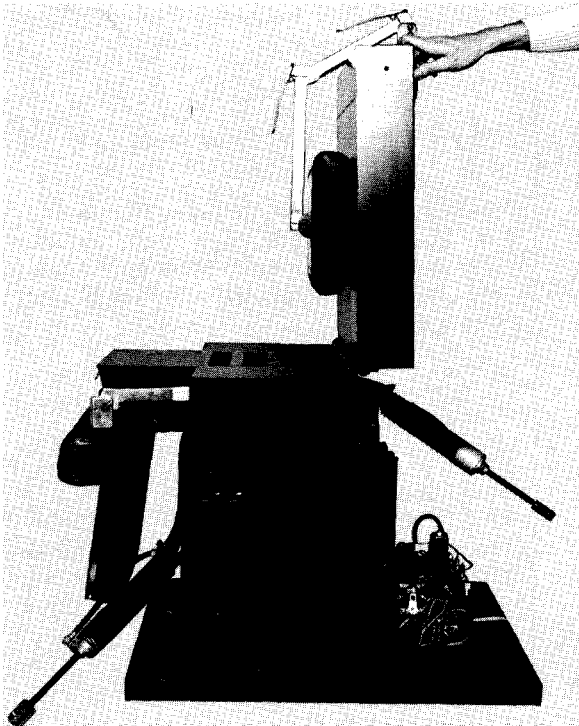

Fig. 22
- 8) Remove "E" ring and clevis pin from rod end of back raising cylinder and let cylinder hang down. Have an assistant hold the back section in a vertical position as shown in Fig. 22.